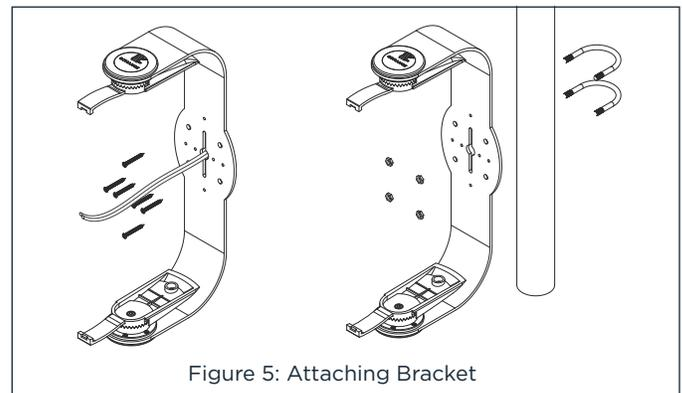

Figure 5: Attaching Bracket
4. If the installation requires that the loudspeakers be mounted on poles you can attach the bracket to poles using appropriately sized U-bolts (71mm/2.8” spacing, not included, see Figure 5).